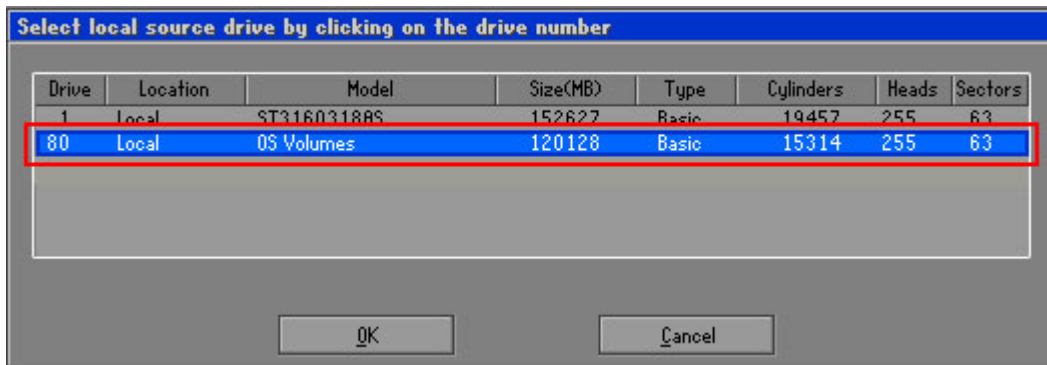

Figure B-11: Select a Local Source Drive
Step 5: Select the local source drive as shown in **Figure B-11**. Then click OK.